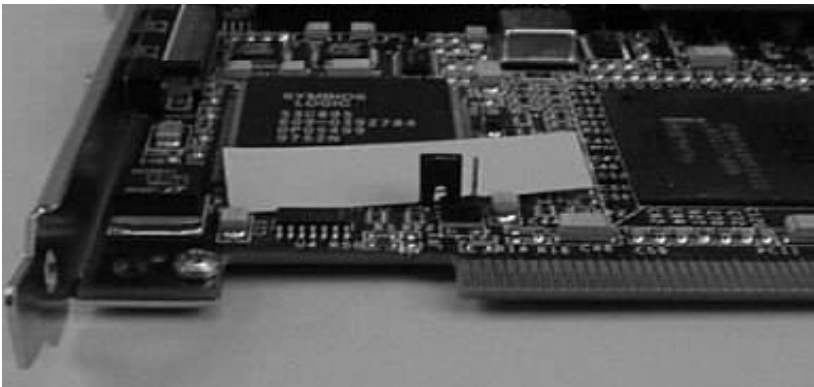

Figure 2-6. Jumper 10 (JP10) on one peg, OFF position
4. ____ Check Jumper 10 (JP10). If it is installed on the jumper pins, remove it according to Figure 2-6.
4. If Jumper 10 (JP10) is installed, place it on only one peg to the OFF position, as shown in Figure 2-6, when using the standard AcceleRAID 150 configuration.